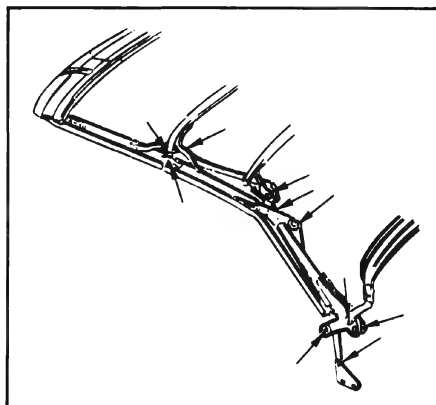

Figure 1-22—Folding Top Linkage
15. Folding Top Linkage. Apply a sparing amount of light oil to all bearing points (Figure 1-22). Wipe off excess lubricant to prevent soiling trim.